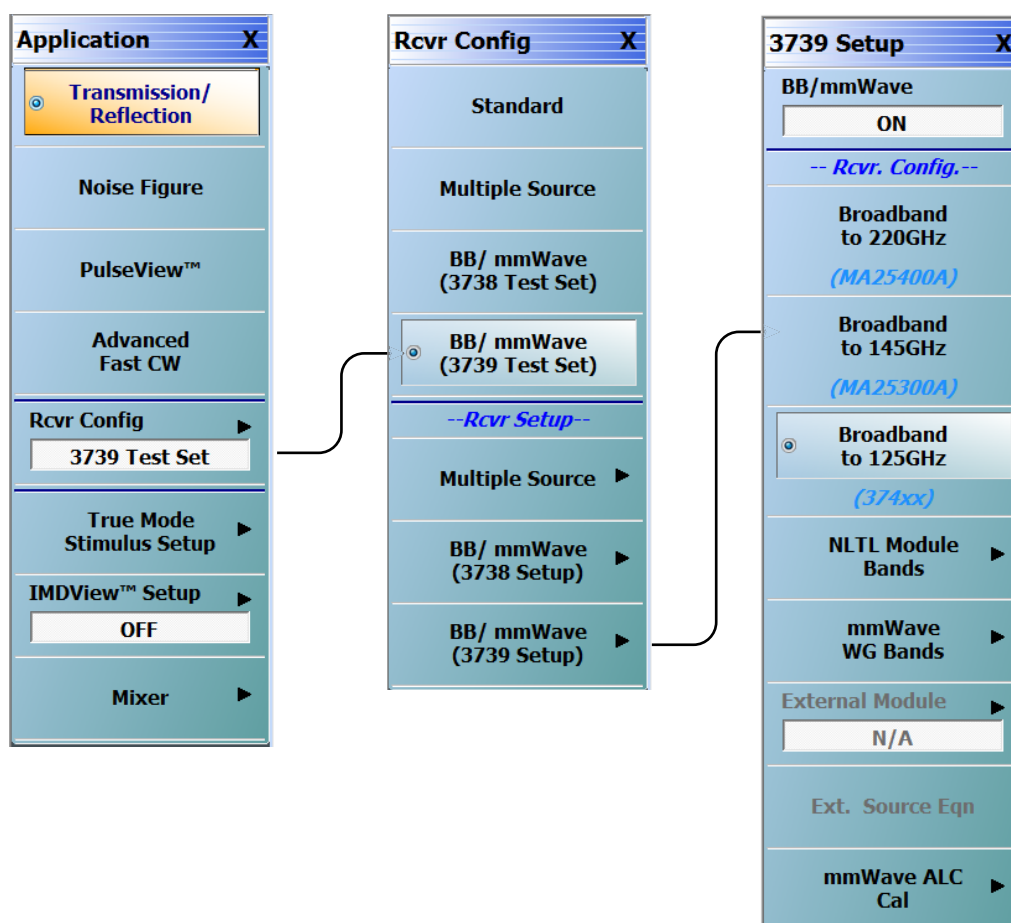

Figure 3-10. 3739 Setup for Broadband Module (MS464xB Menu) – ME7838A4/A4X Example
- Broadband to 125 GHz (for the ME7838A4/A4X system, shown in Figure 3-10)